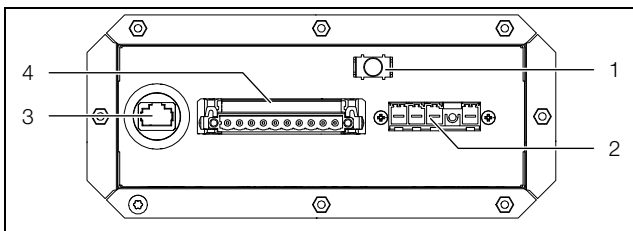

Fig. 30: Connection box
- The cable shielding can contact the earth terminal to the enclosure inside the connection box (fig. 30, item 1).